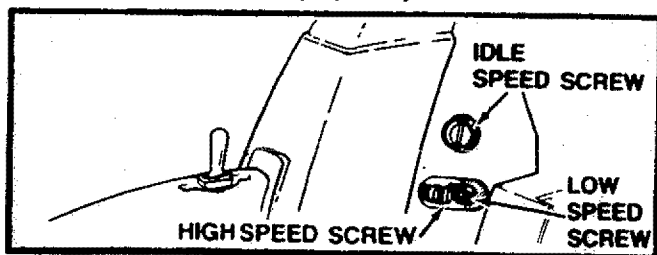

Figure 41
- Locate the three (3) carburetor adjusting screws to the right of the air filter cover. Figure 41.